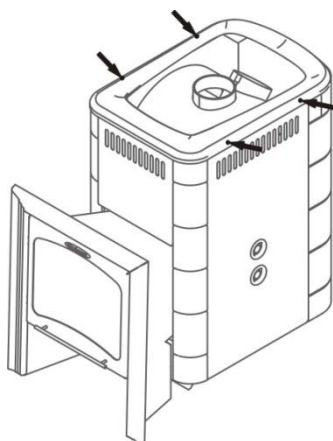

Figure 8. Disassembling of «Angara 2012» sauna stove convector frame
1. Remove the convector frame by unscrewing 4 self-drilling screws (figure 8);